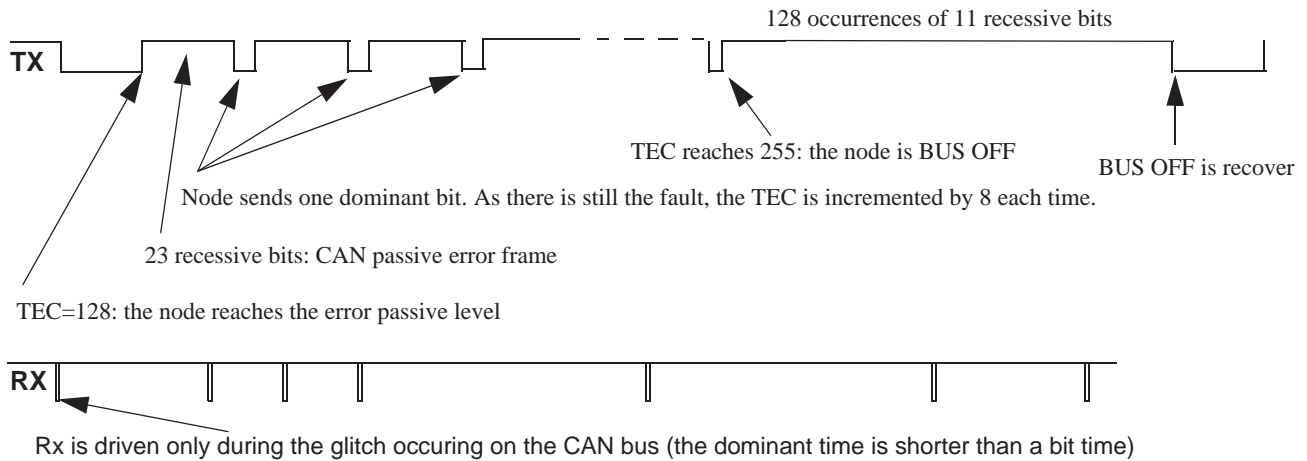

**Figure 45. CANH to CANL Short Circuit Condition**
34. For the failure case which leads to loss of communication and current flow for a very short time period as illustrated in Figure 45. So for instance for CANH to gnd, the impact of the peak current on the V2 voltage regulator is very limited. The TX, RX, and CAN signal in the figure are placed in a CANH to CANL short circuit condition.